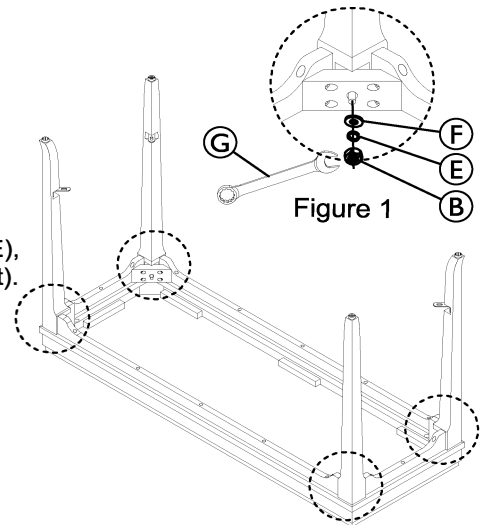

Figure 1
2. Attach the legs to the Table Top using Hex nuts (B), Lock Washer(E), Flat washer (F) and using Wrench(G) (Do not tighten completely yet). As shown in Figure 1.